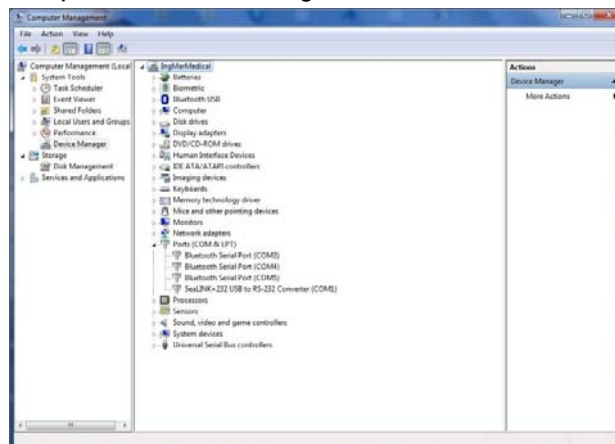

Figure 2-13 Treeview of Device Manager
*Note: Please remember the name of the virtual COM port, and make sure the communication port of the data analysis software is consistent with this COM port. If the user fails to remember the name of the virtual COM port, he or she can view the port name by clicking “+” before “Port (COM and LPT)” in “Device Manager” of the computer, as shown in Figure 2-13.*